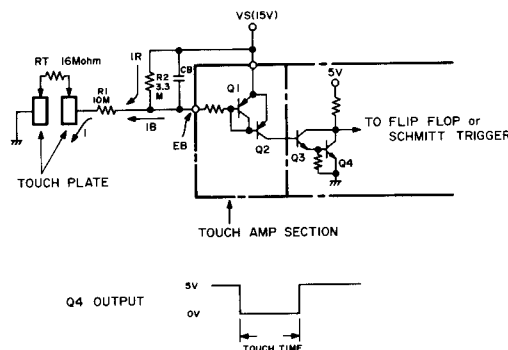

Figure 38-1
5.2.2 Touch Amplifier Circuit (Refer to Figure 38-1)